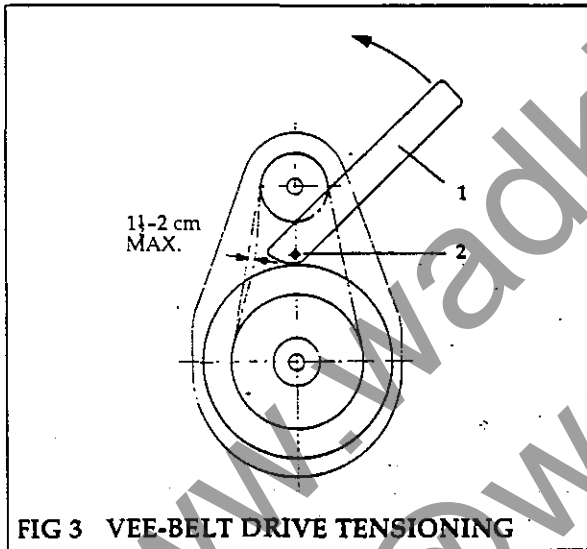

FIG 3 VEE-BELT DRIVE TENSIONING
Vee-Belt Drive Tensioning (Fig.3)
- (1) Remove the drive cover.
- (2) Check belt tension. The belt should be capable of being depressed approximately $1\frac{1}{2}$ to 2 cm by application of average thumb pressure (see Fig.3).
- (3) To adjust: fit spanner (1) provided, to adjusting screw (2), located at motor support bracket and turn in an anticlockwise direction to tension the belt drive (see Fig.3).
It may at times be necessary to remove a drive pulley. The motor shaft pulleys are fitted with Taper-Lock bushes (see Fig.3), cutterblock spindles are fitted with parallel keys.